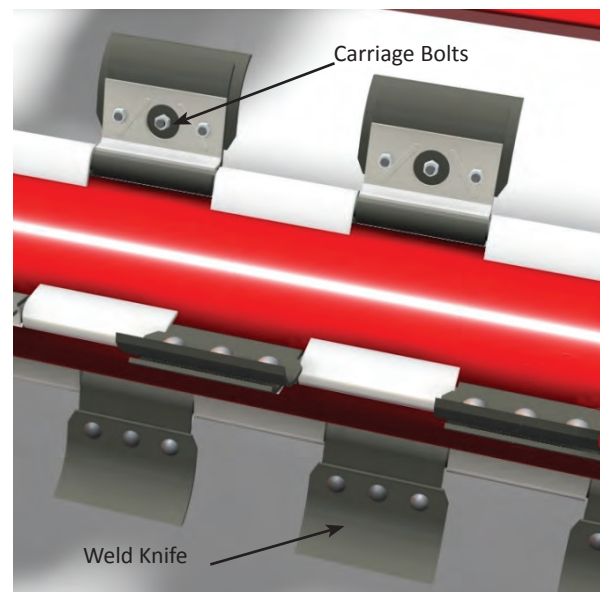

Figure 15: Standard Knife Configuration
2. Individual knives can be removed by removing the three carriage bolts and lock nuts securing the knife to the knife hanger, shown in Figure 15.